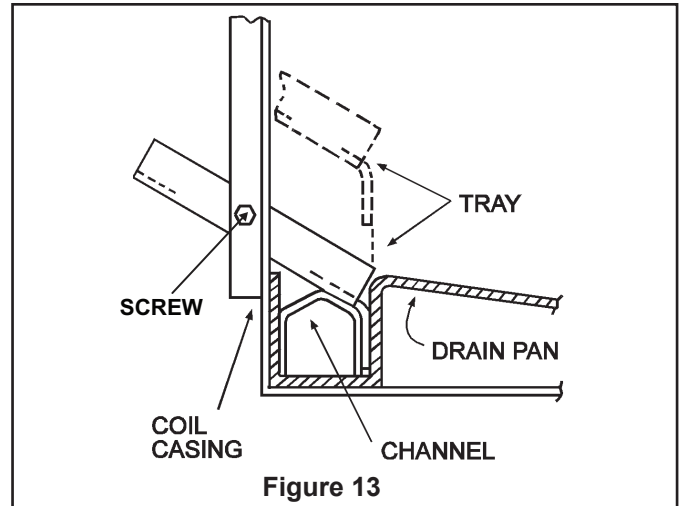

Figure 13
- g. There is a splash guard packaged with the coil. This guard is for horizontal left coil installation only. The guard has a bend which is inserted into the front channel of the horizontal drain pan on the outlet air side of the coil case. The guard is then rotated downward until it rests in the drain pan. One sheet metal screw is driven through the coil case duct flange on the front side and into the splash guard side hole. See Figure 13.